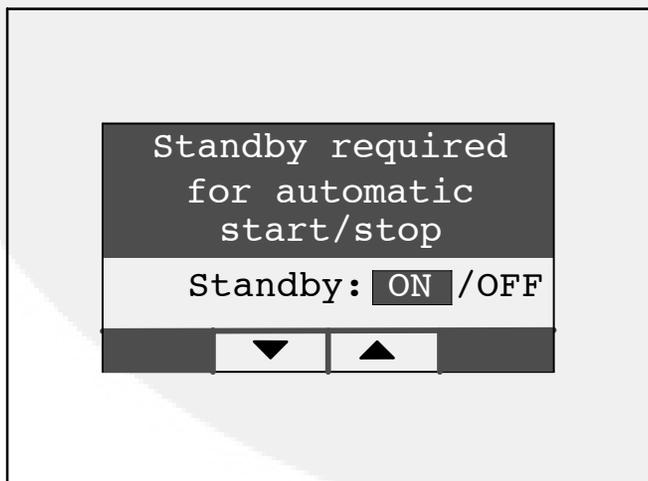

FIGURE A-3. ENABLE/DISABLE STANDBY SCREEN
1. Press the STANDBY ON/OFF button on the Operator Panel (Figure A-1), which takes you to the Standby ON/OFF screen (Figure A-3).